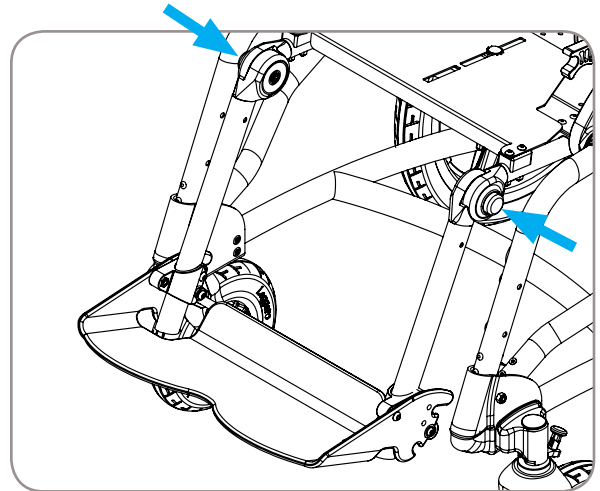

Figure 7
1. Press and hold buttons on outside of each adjustment ratchet, reference Figure 7.